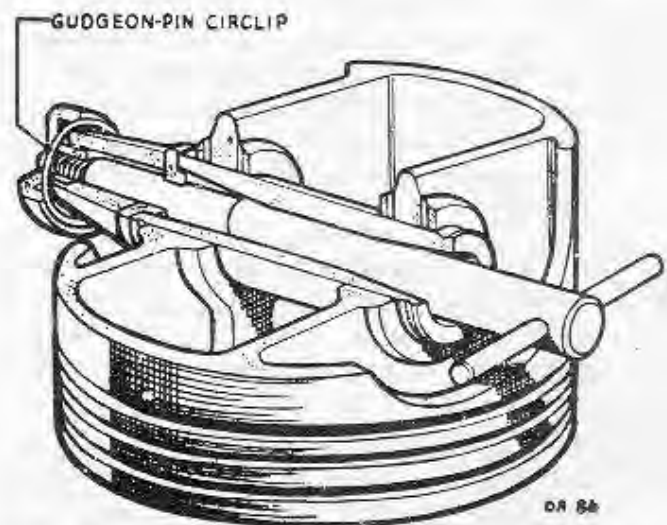

Fig. 1. Method of using gudgeon-pin circlip expander
11. When fitting the first washer on to each gudgeon-pin, do not slide it along the full length of the pin as this may scratch and injure the bearing surface of the latter. New circlips must be fitted in place of those removed, but any circlip which has not been disturbed and which is secure in its groove need not be renewed. Normally, circlips can be fitted with the fingers, but the gudgeon-pin circlip inserter T200-162 is available for use when required (*fig. 1*).